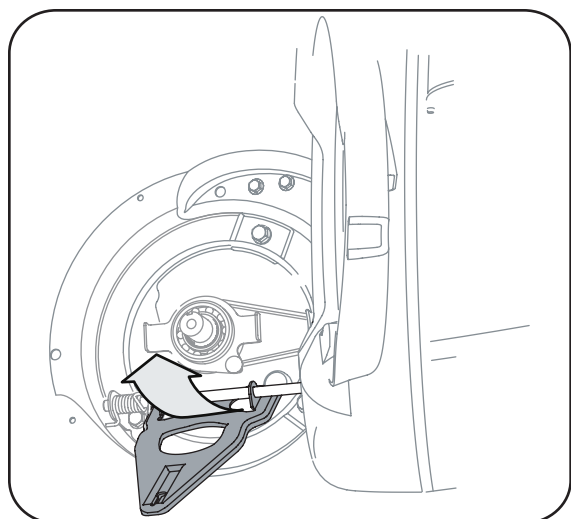

Figure 5-12
18. Pivot the control arm back to its original position and reinstall six-speed cable into the slot. See Figure 5-12.